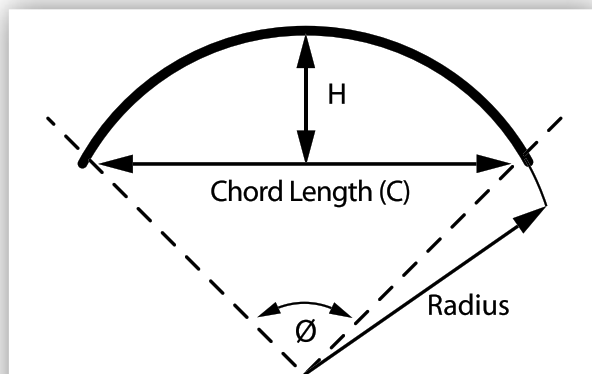

Figure 11: Curvature Measurements
2. Measure the corresponding chord length (C) - refer to Figure 11.
3. Measure the corresponding centre offset (H) - refer to Figure 11.